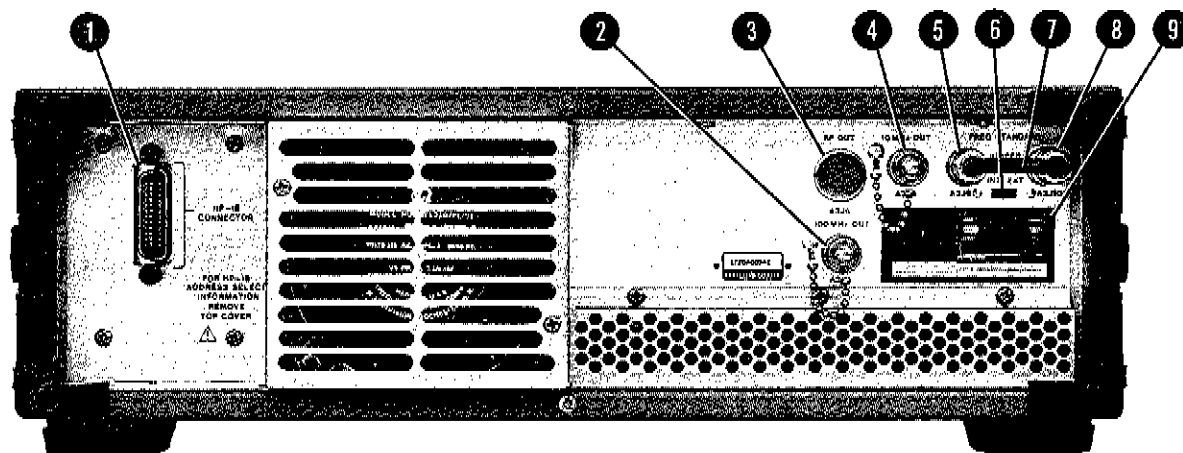

Figure 3-2. Rear Panel Connectors, Switches, and Displays
3-7. The only maintenance the operator should normally perform is the replacement of the primary power fuse (F1) located in the Line Power Module Assembly ⑨ (A3A11) shown in Figure 3-2 and the mechanical zero adjustment ⑳ of the meter shown in Figure 3-1. For instructions on how to change the fuse, refer to Section II, Line Voltage Selection.
- INTERNAL REF OFF:** when lit, indicates when the rear panel INT-EXT switch **27** (see Figure 3-2) is in the EXT position.
- PRESET key (3 GHz):** sets frequency to 3 GHz and extinguishes the Frequency Resolution Light Bars **8**.
1. Check that the LINE switch **12** is in STANDBY and remove the power cable from the Line Power Module **9** (see Figure 3-2).
2. Check that Line Power Module **9** (see Figure 3-2) is set to the nominal line voltage to be used and that the fuse is the correct value and type.
1. On the rear panel (see Figure 3-2), remove Jumper **7** (A3W3) from the FREQ STANDARD EXT connector **8** (A3J10), and set the FREQ STANDARD INT/EXT switch **6** to EXT.